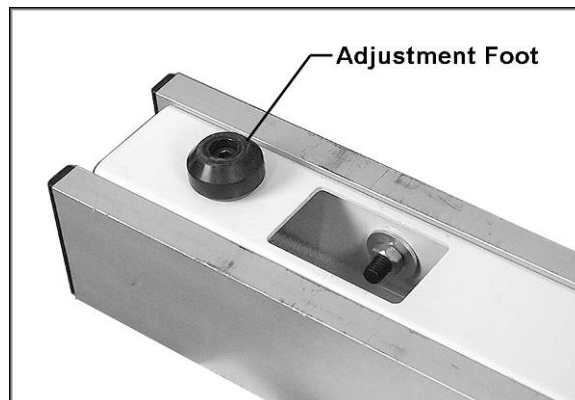

Figure 12
5. If this space is not equal, unlock the fence and turn it over. Loosen the hex nut under the adjustment foot (Figure 12) and rotate the adjustment foot as needed to raise or lower the rear of the fence. Tighten the hex nut and re-position the fence to check the spacing.